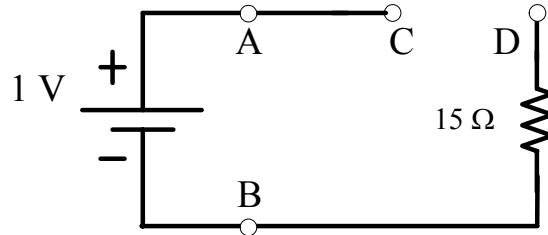

Figure 2.1: Circuit for DC current measurement.
- 1) Connect the circuit as shown in Figure 2.1.